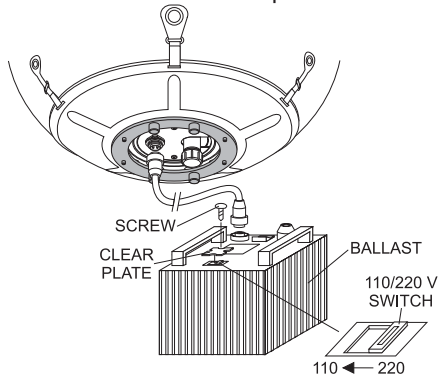

Figure 9. Connecting the Ballast Cable
- Insert the female end of the ballast cable (Figure 9) into the connector on the lamp fixture.